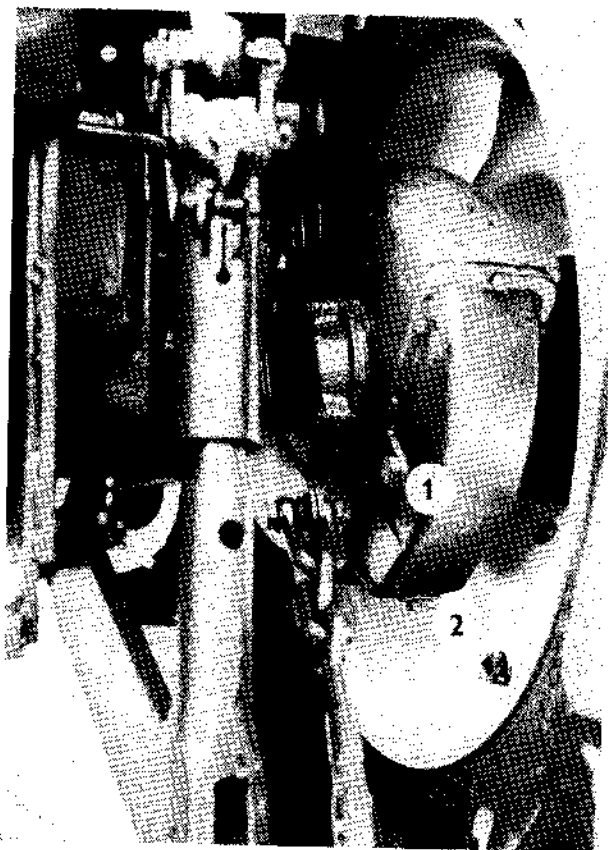

Fig. 12
15. Rear half-axle portal oil filling hole (Fig. 12/1).
16. Rear half-axle portal oil drain plug (Fig. 12/2).